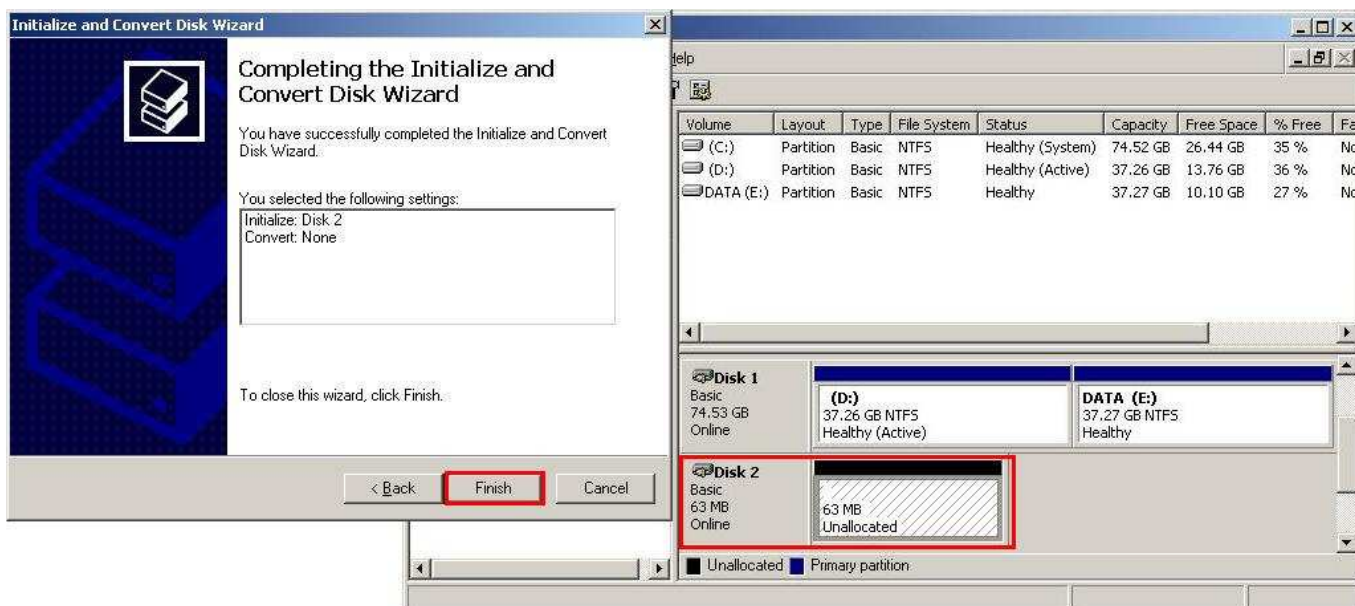

Figure 6 Initialize Disk Completed
- On pop-up menu, select Next button until disk is initialized. New disk which is unallocated will be displayed as shown in Figure 6.